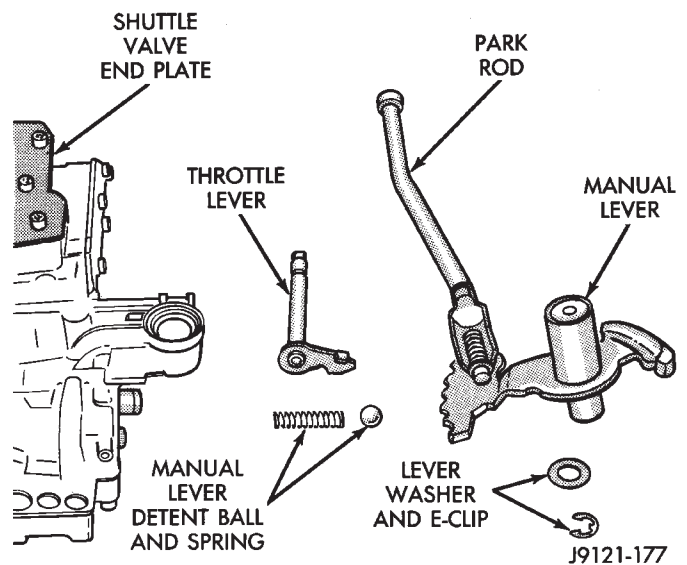

Fig. 104 Removing Manual And Throttle Levers
- (4) Remove manual shaft E-clip and washer (Fig. 104).
- (5) Pull manual shaft and park rod assembly upward out of valve body and off throttle lever (Fig. 104).
- (6) Remove Retainer Tool 6583. Then remove and retain detent ball and spring.
- (7) Remove throttle lever (Fig. 104).